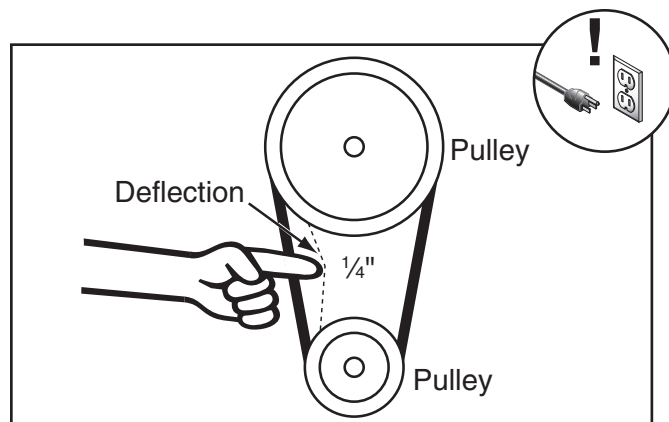

Figure 98. Correct V-belt deflection.
The V-belt is correctly tensioned when there is approximately 1/4" deflection when it is pushed with moderate pressure, as shown in **Figure 98**.
2. Lower the motor and re-tighten the mounting hex nuts. The *high range* V-belt is correctly tensioned when there is approximately $\frac{1}{4}$ " deflection when it is pushed with moderate pressure, as shown in **Figure 98** on **Page 63**.